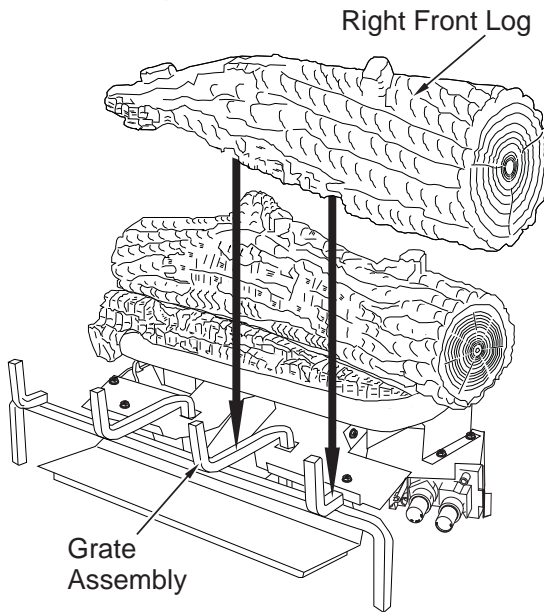

Figure 35 - Installing Right Front Log
3. Place the right front log onto the base and grate assembly as shown in **Figure 35**. The log has notches in the bottom for the grate.